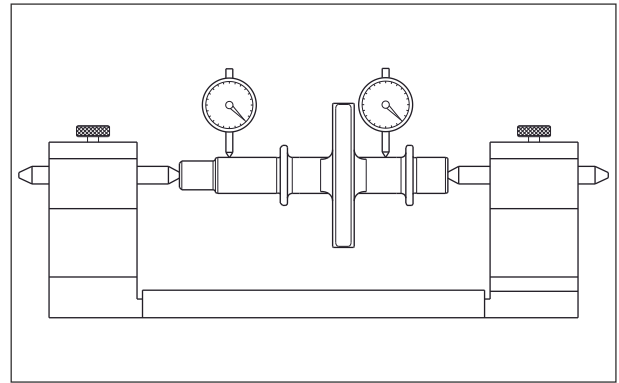

Fig. 3.176
- Support the balancer shaft with 'V' blocks or anvil. Mount the dial indicator at the position shown to read the runout. Runout should be within the limit. (Fig. 3.176)